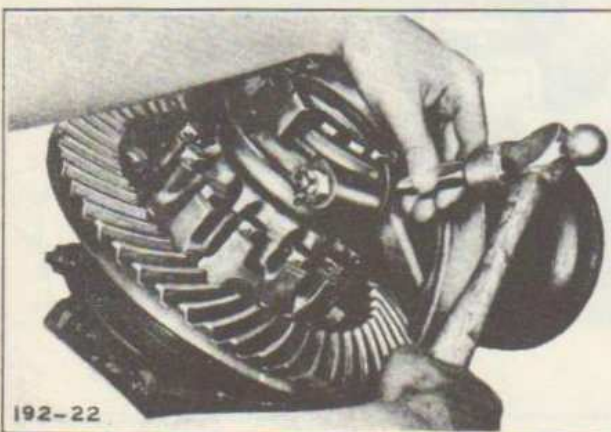

Fig. 15—Marking Caps and Pedestals
Remove bearing adjustment nut locks (3). Loosen bearing cap nuts (4) slightly. Straddle slots of nuts (5) with suitable tool and back out nuts one turn. Punch-mark mating caps and pedestals. (See Figure 15).